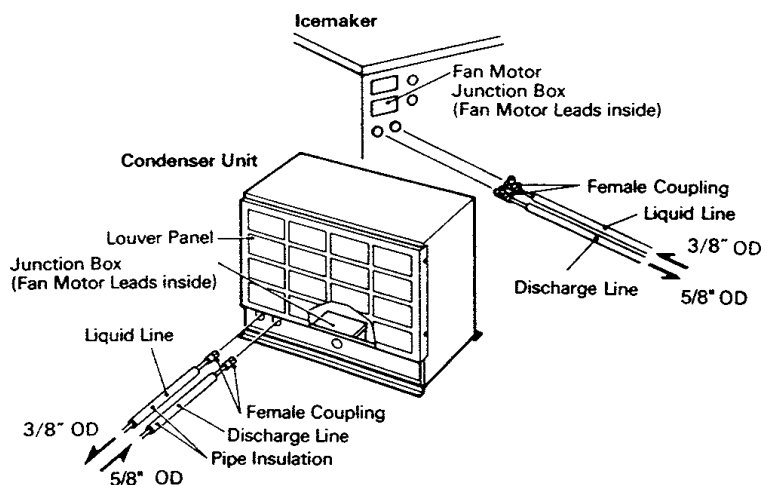

Fig. 8
- 3) Install enough length of two copper tubings provided with Aeroquip couplings between the icemaker and the condenser unit. The two copper tubings should be insulated separately. See Fig. 8.